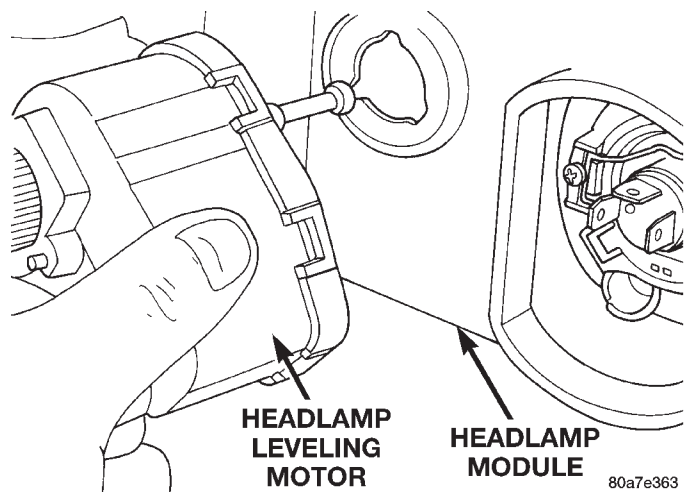

Fig. 3 Headlamp Leveling Motor
- (1) Remove headlamp module from vehicle. Refer to Headlamp Module Removal.
- (2) Rotate headlamp leveling motor counterclockwise one quarter turn (Fig. 3).
- (3) Pry headlamp leveling motor from headlamp module.